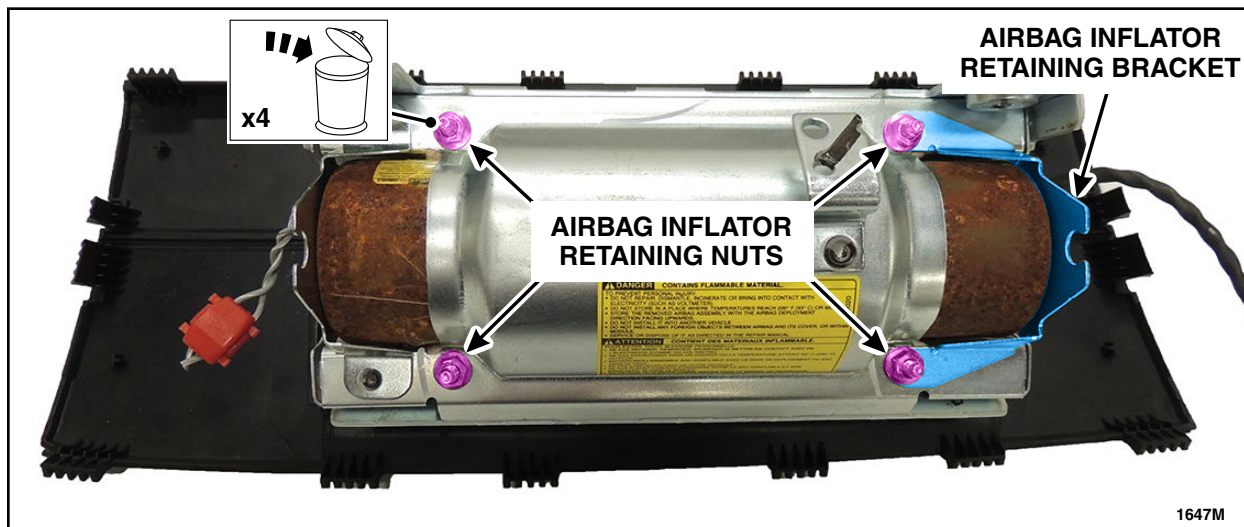

FIGURE 5
7. Remove and discard the four passenger airbag inflator retaining bracket nuts and the retaining bracket. See Figure 5.